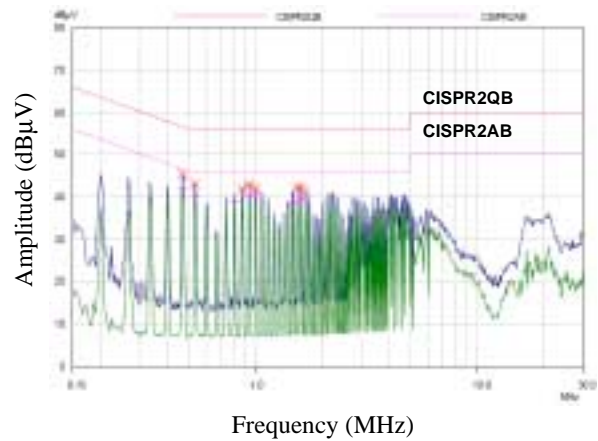

Figure 11. KA5-series FPS™ Full Range EMI scan(67KHz, no Frequency Modulation) with DVD Player SET
7. Frequency Modulation : EMI reduction can be accomplished by modulating the switching frequency of a switched power supply. Frequency modulation can reduce EMI by spreading the energy over a wider frequency range than the band width measured by the EMI test equipment. The amount of EMI reduction is directly related to the depth of the reference frequency. As can be seen in Figure 11, the frequency changes from 65KHz to 69KHz in 4mS for the FSDM0265RN. Frequency modulation allows the use of a cost effective inductor instead of an AC input mode choke to satisfy the requirements of world wide EMI limits.